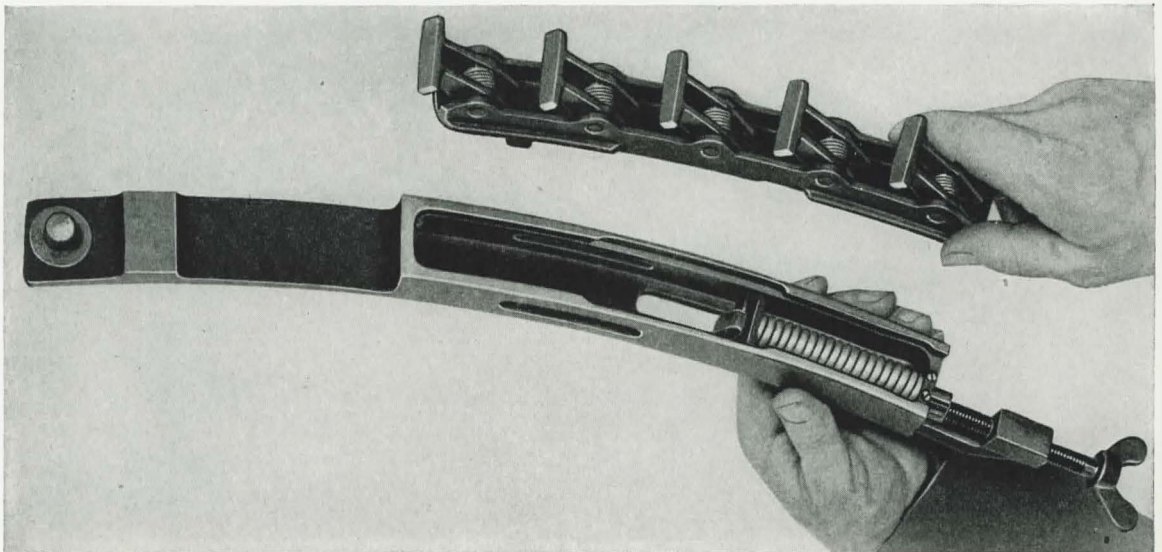

Figure 63
- (b) Slide the holder and lift it out, **Figure 63**.
- (3) Remove the pawls.